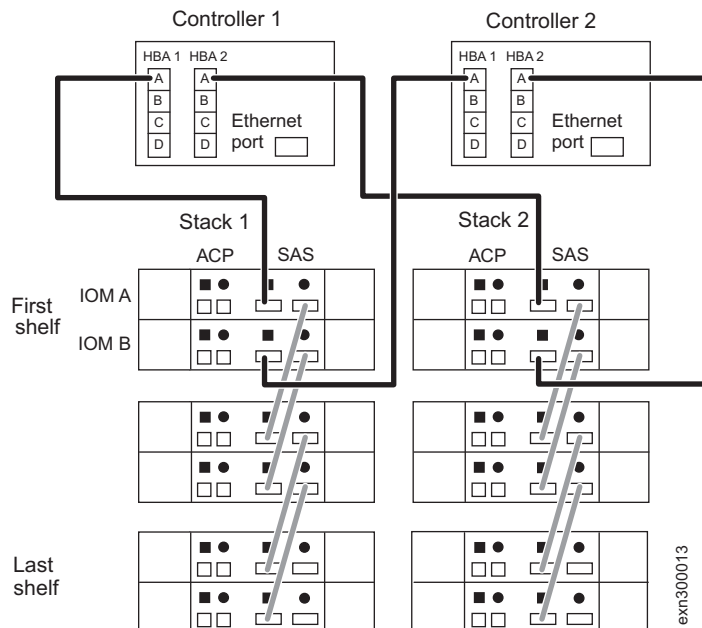

Figure 14. Cable the first shelf connections
2. Cable the first shelf connections, as shown in Figure 14.